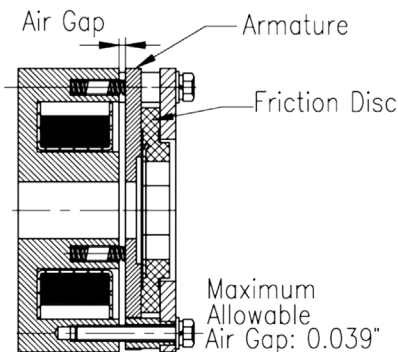

Figure 11
3. Check for worn brake disc by measuring the brake air gap with a feeler gauge (Figure 11). A brake gap larger than the allowable wear limit — 0.039" — may cause chatter or failure to release.